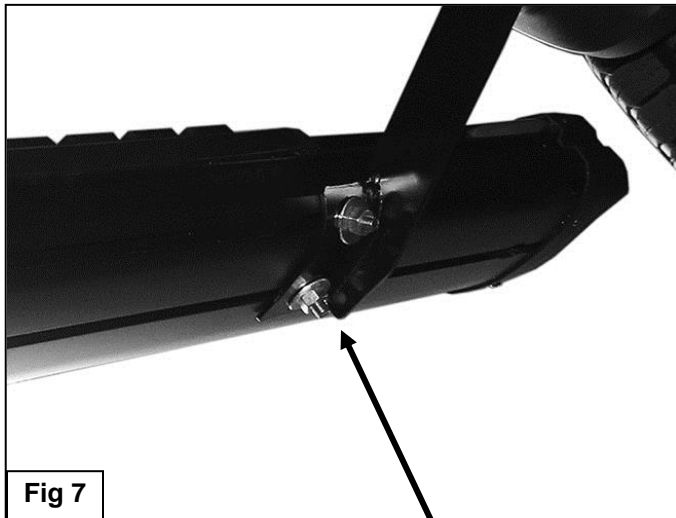

Fig 7
8. Line up the front of the Sidebar approximately 2" back, (or locate as desired), from the front wheel opening. Attach the Sidebar to the Mounting Brackets with (6) 8mm Flat Washers, (6) 8mm Lock Washers and (6) 8mm Hex Nuts, **(Figure 7)**. Do not tighten hardware at this time.